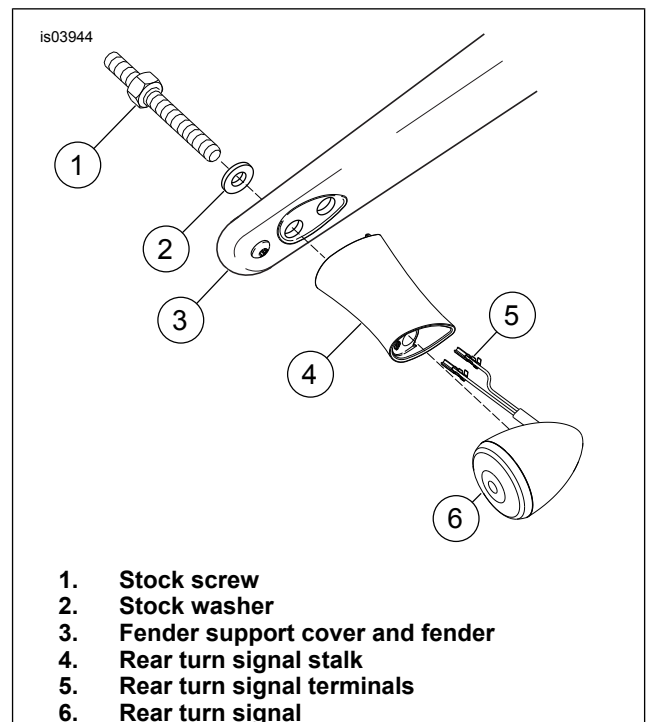

Figure 7. Install Rear Turn Signals
- a. See Figure 7. Route the turn signal wiring terminals (5) through the stalk (4) and into the rear fender in the same manner as the stock turn signal.
- b. Install the rear turn signal (6) and turn signal stalk (4) to the rear fender strut cover (3) using the stock washer (2) and screw (1). Tighten the screw to 10.8–13.6 N·m (96–120 in-lbs).